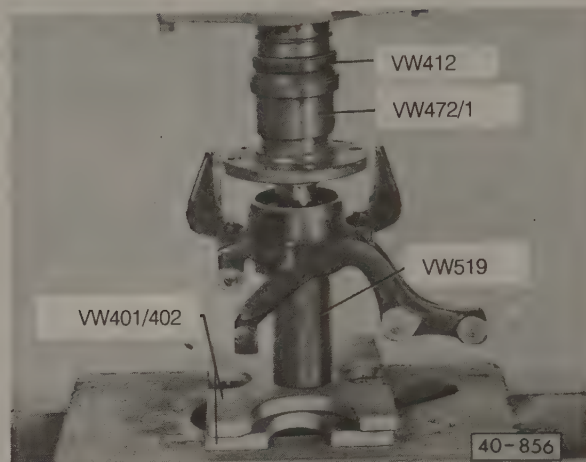

Fig. 5-28. Wheel hub being pressed into bearing. Press tool must support bearing inner race only.
- Press the hub into the bearing as shown in Fig. 5-28. Be sure to support the bearing on the inner race only.